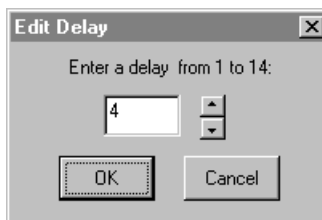

Figure 10.2. Use the Edit Delay dialog box to alter the propagation delay of all selected devices.
- 1 Select a device then choose **Edit > Set Prop Delay** to display the dialog box pictured in Figure 10.2.